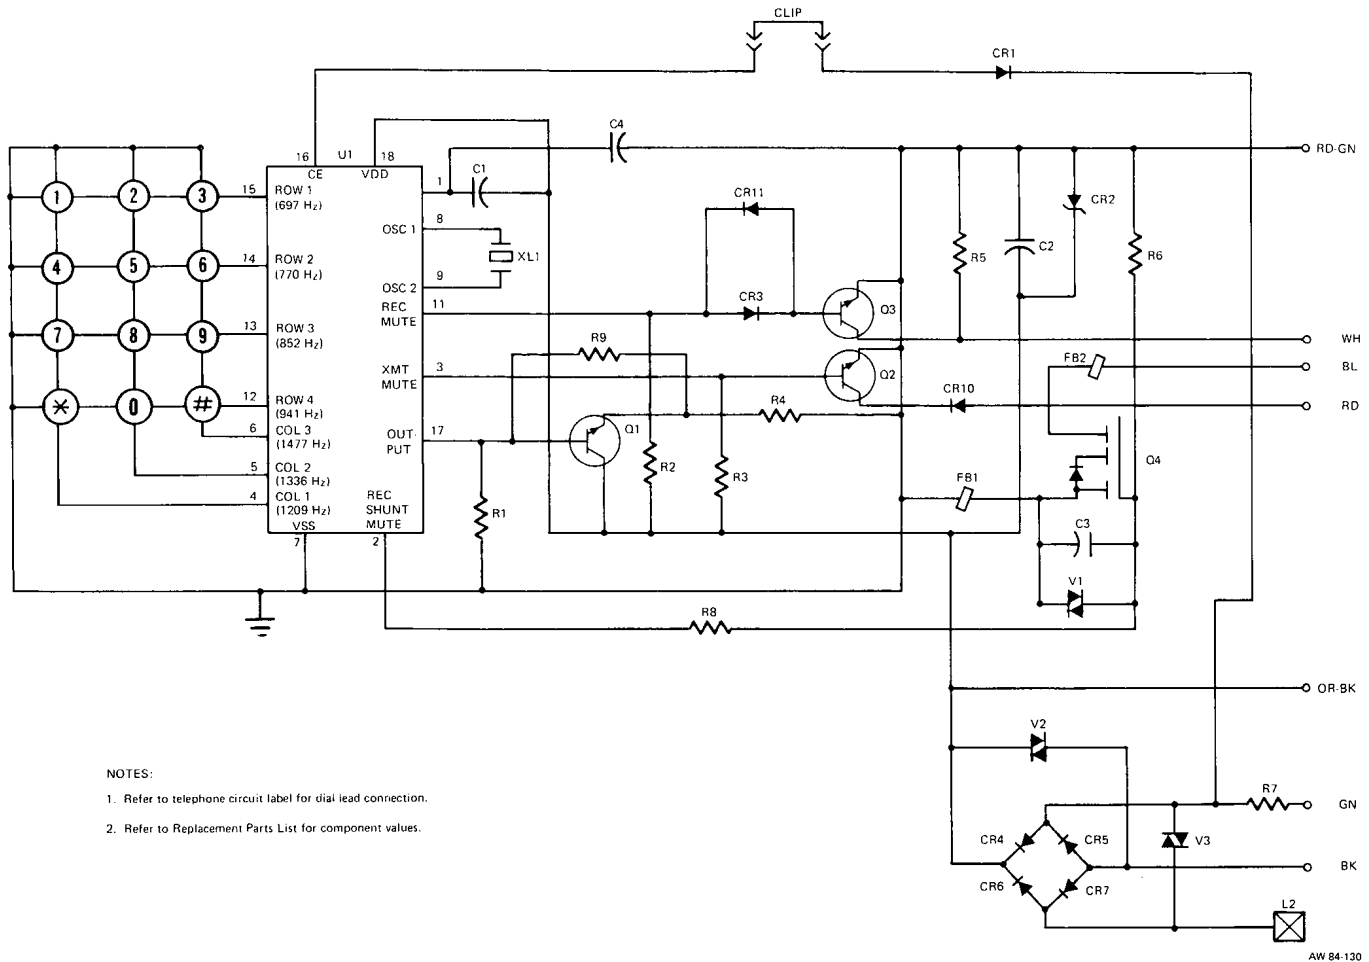

Figure 3: Model 42 Pushbutton Dial, Schematic
**2.04** The tone-generating PCB consists of a DTMF generator integrated circuit (IC), a crystal oscillator, and various other solid-state components. The crystal oscillator provides a constant reference for the tone generator IC that generates eight digitally-synthesized tones. The other solid-state components, along with the IC, provide hand-set receiver and transmitter muting, and polarity guard. (See Figure 3.)